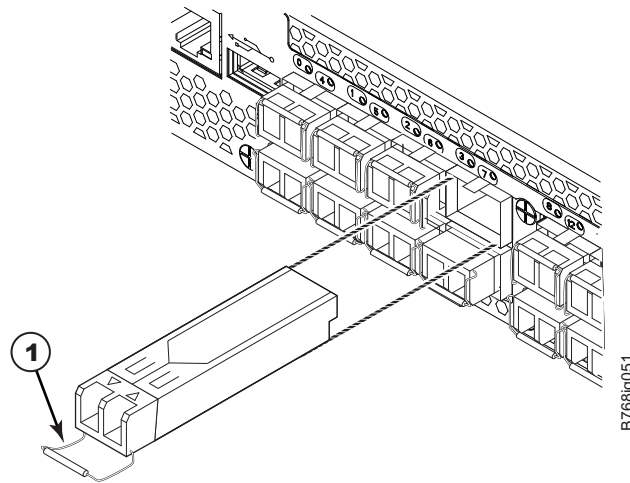

Figure 44. Replacing an optical transceiver
2. Pull the bail (wire handle) **1** away from its pivot point and out, sliding the transceiver out of the port (Figure 44).